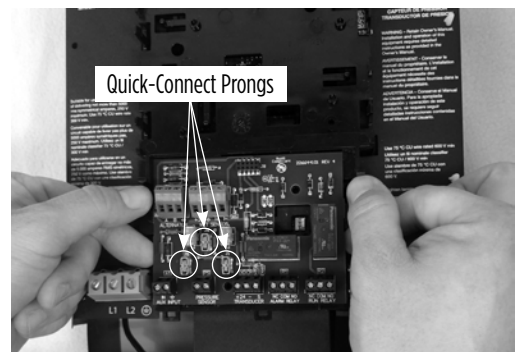

Figure 4
6. Carefully hold the retention clips away from the enhanced pressure input board. Gently pull up on the board in a rocking motion to disengage it from the three quick-connect prongs (Figure 4).